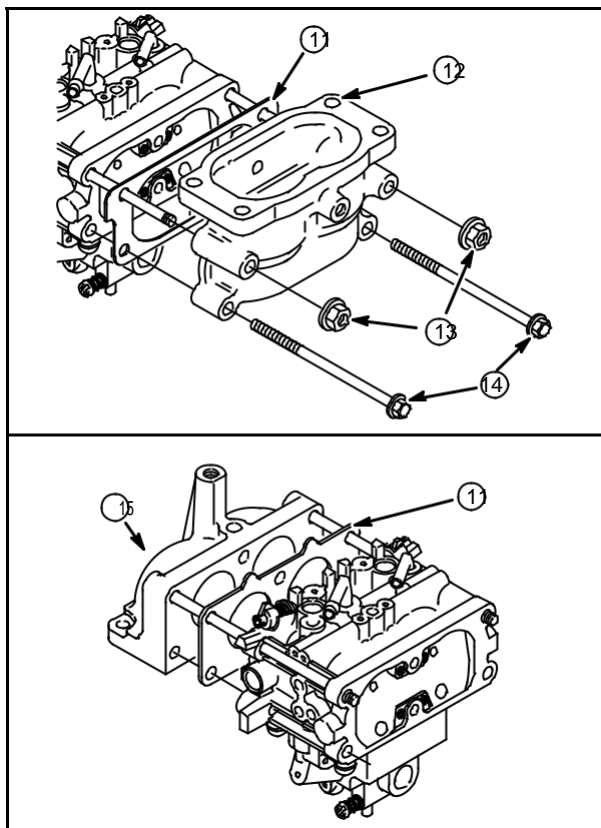

Fig. 20
Remove two nuts (13) and two screws (14). Separate air cleaner elbow (12) and intake elbow (15) from carburetor, **Fig. 20**.